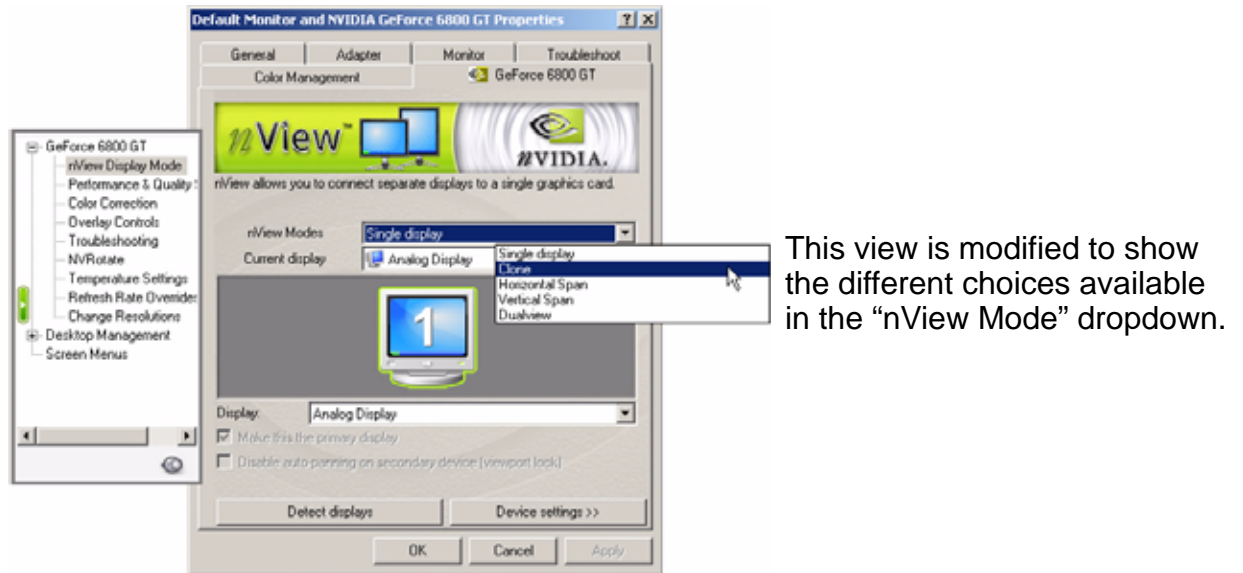

Figure 5-5. Option for “cloning” VGA display on TV monitor
8. In the submenu, click on **nView Display Mode**. The menu changes as shown in **Figure 5-5**.